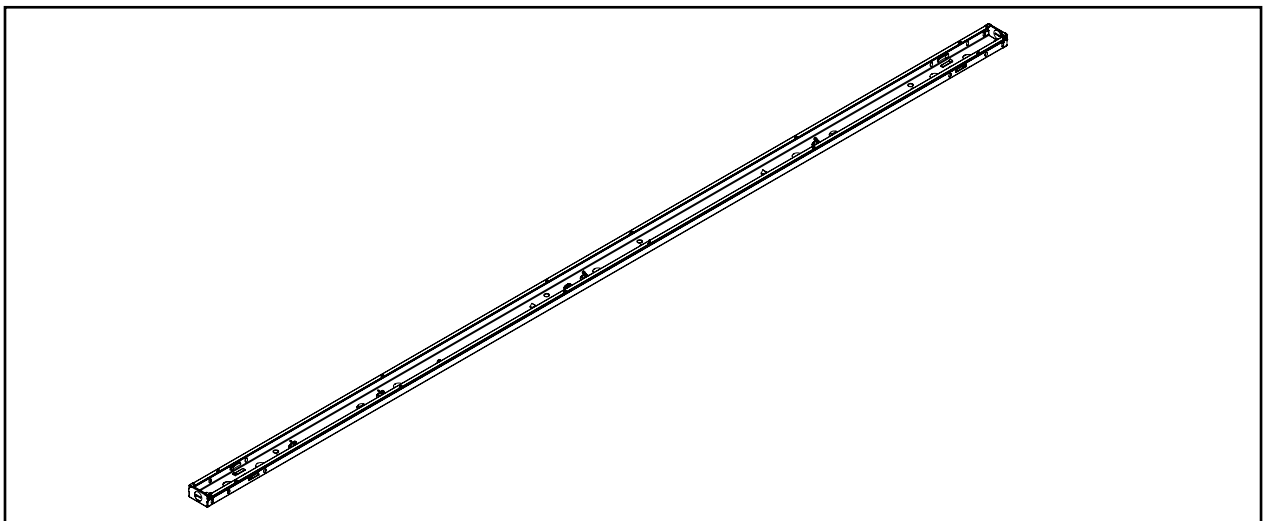

Figure 1
1. Remove lens and channel cover as shown in Figure 1.